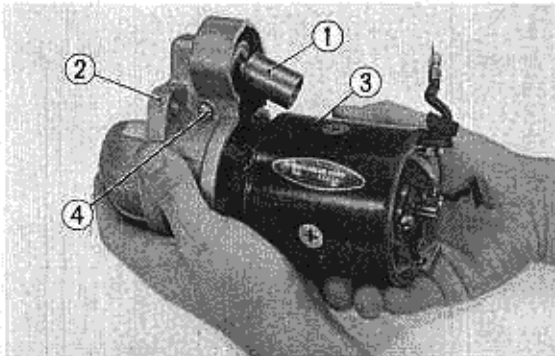

Fig. 19-5 ① Plunger ② Case Assembly ③ Yoke Assembly ④ Shift Lever Pin
10. Remove the shift lever pin, and then the plunger from the shift lever (Fig. 19-5).